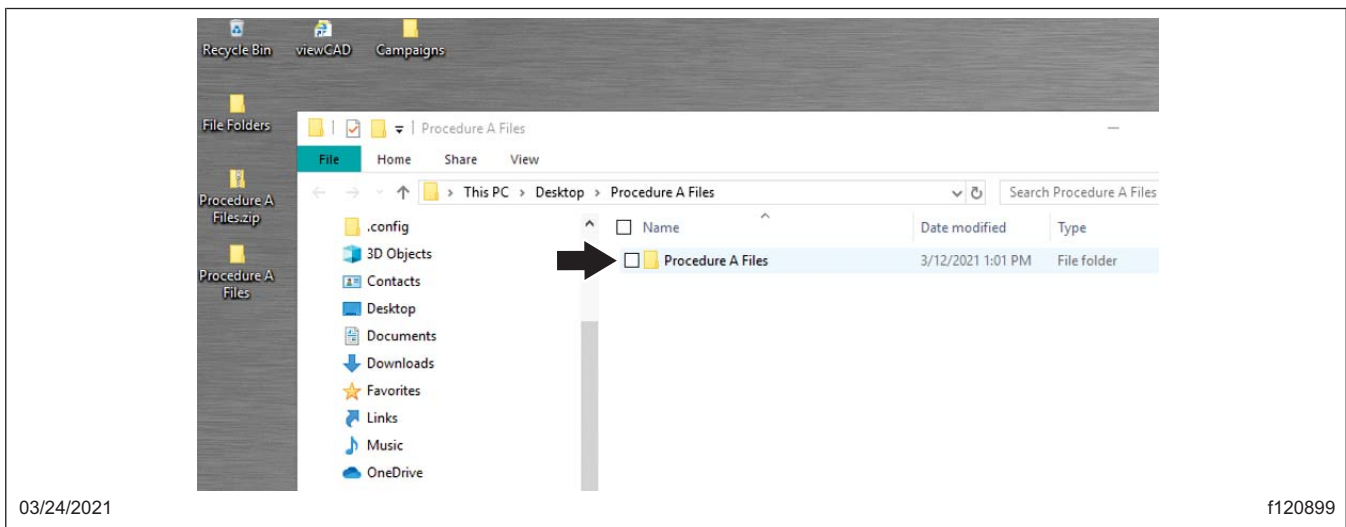

Fig. 9, Selecting the 'Procedure A Files' Folder
11. A new folder named "Procedure A" will be created on the desktop. Double click on the folder to open it. See Fig. 9.